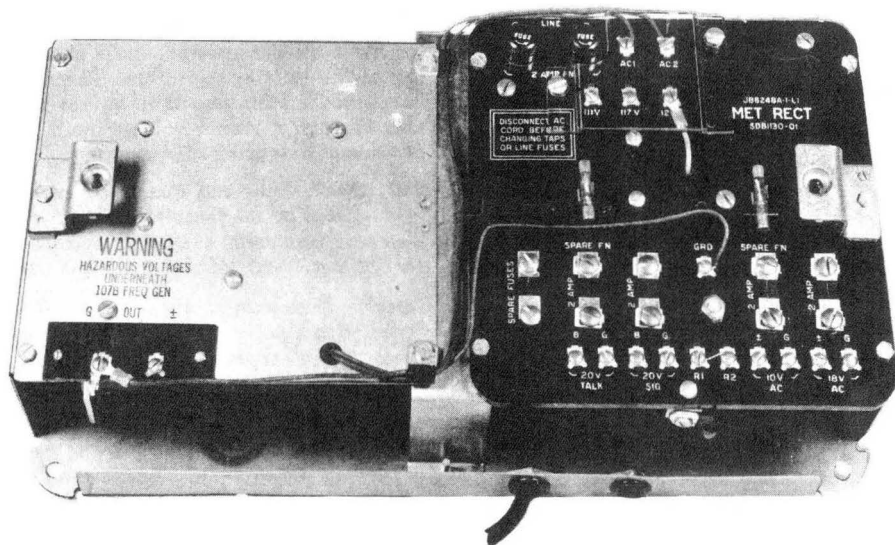

Fig. 1 — J86731A, List 4, Cover Removed
2.01 The 101G power plants provide packaged small capacity ringing, low voltage ac and unregulated dc power supplies. Fig. 1, 2, 3, and 4 show views of some of the plants, while all of the various power plant codes, output and features are shown in Table A.